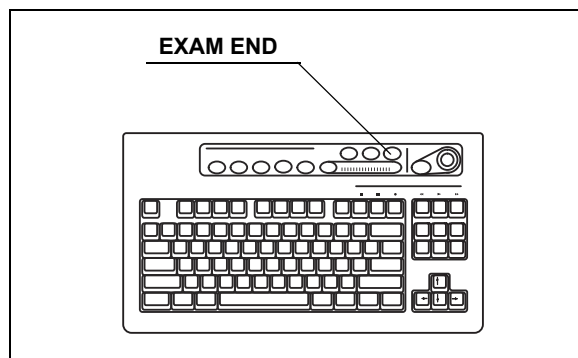

Figure 4.13
5. When deleting all patient data displayed on the monitor, press the "EXAM END" key on the keyboard (see Figure 4.13).